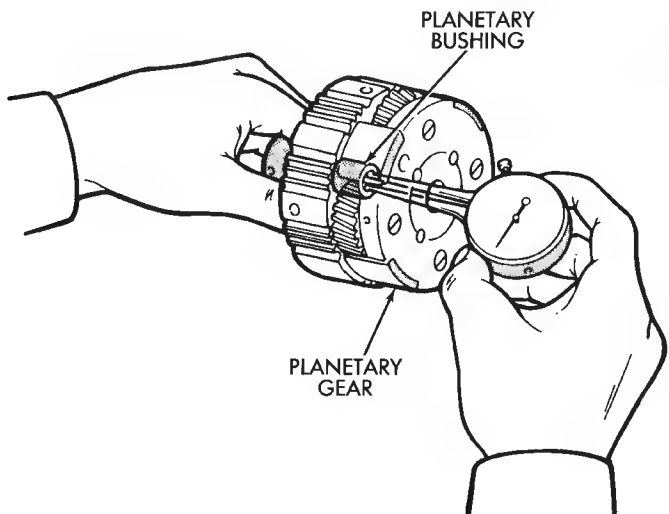

Fig. 19 Checking Planetary Bushing
(22) Check inside diameter of planetary gear bushing (Fig. 19). Maximum inside diameter is 11.27 mm (0.4437 in.). Replace planetary gear if bushing inside diameter is greater than specified.